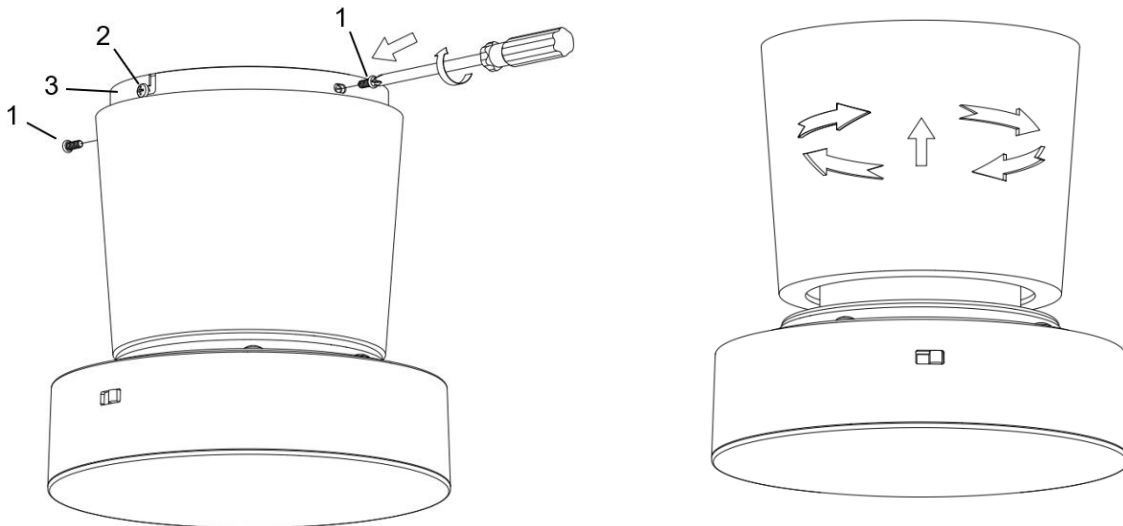

Fig. 7
- Secure and tighten the canopy screws (1) to the mounting bracket. The hanging canopy (3) shall have 4 screws (1) & (2) in total. Avoid damaging the electrical wiring previously prepared when hanging the canopy. (Fig.7)
- Align the inner grooves of the motor housing up to the screws of the mounting bracket. Finally, attach the motor housing to the hanging plate of the fan assembly and secure it anticlockwise. (Fig.7)